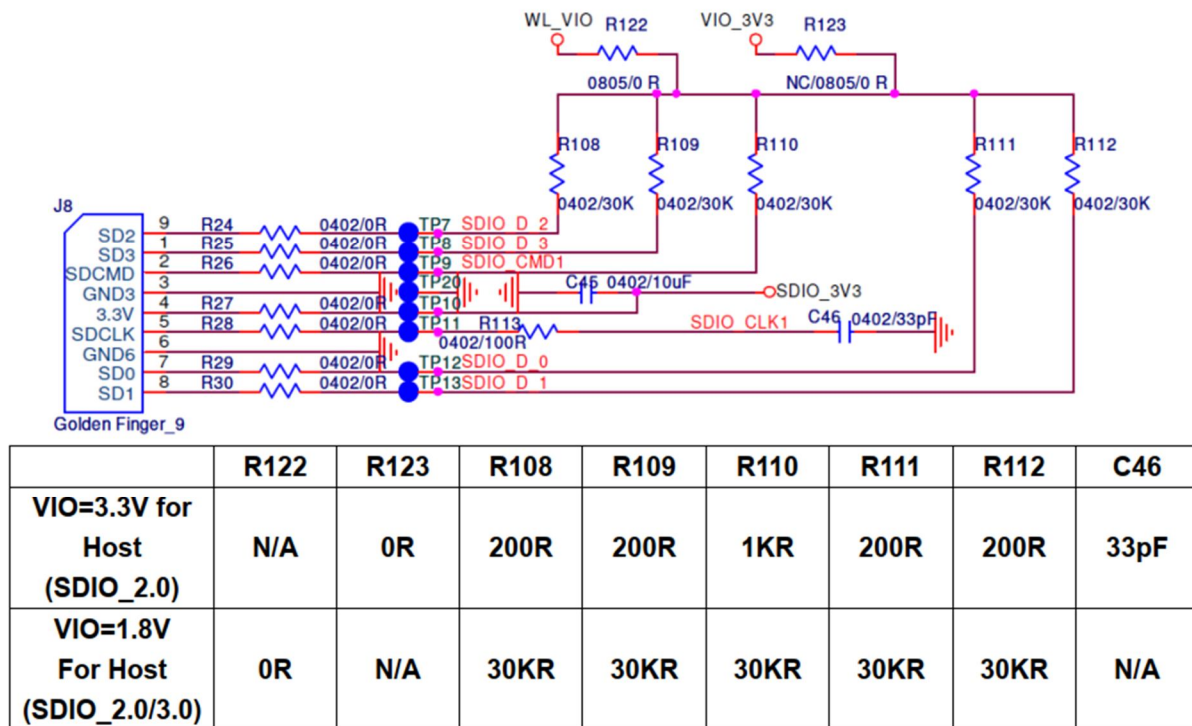

Figure2. WiFi verification connection interface to Host SDIO as using SDIO2.0
- ❖ Refer to Figure2 SDIO pin definition connects the J8 interface of AP12276\_M2 evaluation board to Host SDIO control interface.